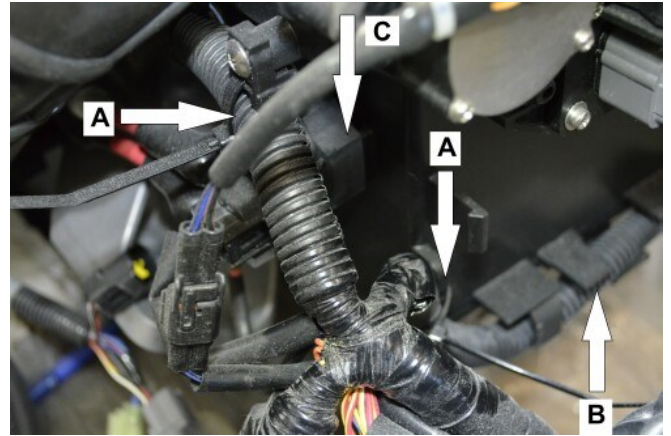

Figure 8
Cut zip ties (A) holding harness to right side of air box. Slide harness out of holder tabs (B) at bottom, front of air box. Pull starter relay and rubber mount (C) off mounting tabs and drop into hull. (Figure 8)